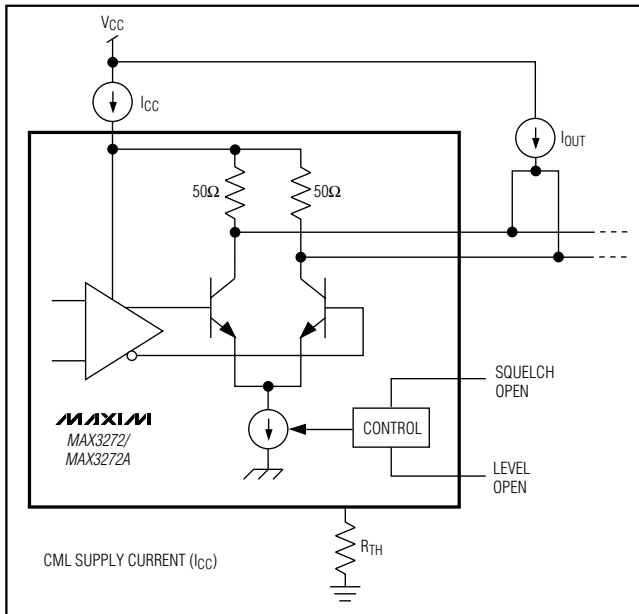

Figure 1. Power-Supply Current Measurement
**Note 2:** Supply current measurement excludes the current of the CML output stage ( $16mA$  typical). See Figure 1, *Power-Supply Current Measurement*.